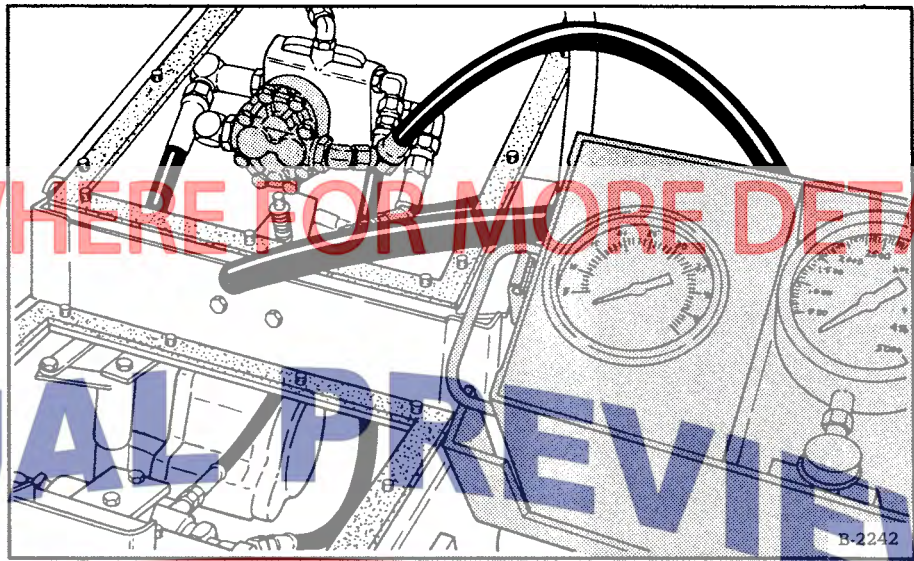

Fig. 2-4 Testing Gear Pump
- (1) Tilt ROPS forward.
- (2) Remove transmission housing cover.
- (3) Connect Y-90 to the outlet of pump (see Fig. 2-4).
- (4) Lower ROPS until steering levers are centered.
- (5) Turn the pressure control valve on the tester fully out (counterclockwise).
- (6) Start engine and run at low RPM.